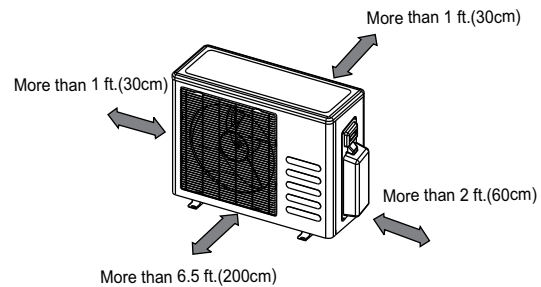

Fig.2
- Ensure that the clearance is maintained per Fig 2.